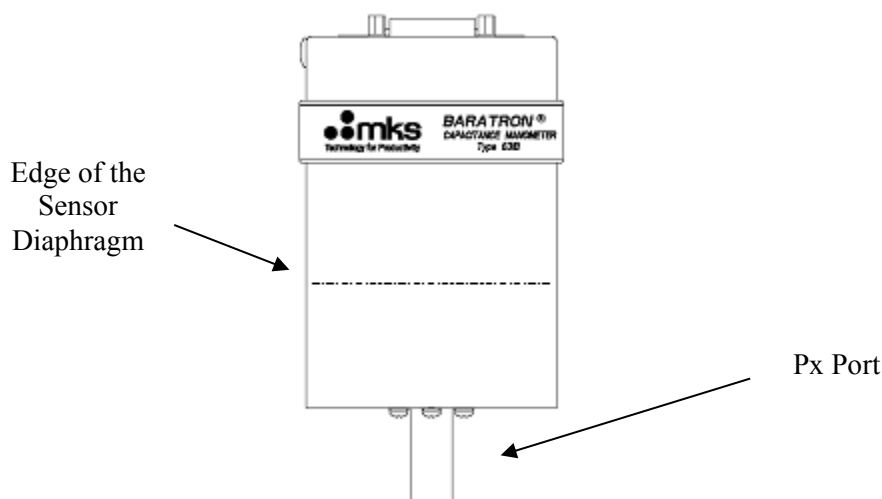

Figure 1: Recommended Orientation of the Type 631B Transducer
- Mount the Type 631B transducer components correctly: refer to Figure 1: Recommended Orientation of the Type 631B Transducer, page 26, for the recommended orientation of the sensor
The 631B transducer can be installed in any orientation as long as the inlet tube is not facing upwards. However, for best results, it is recommended that the Px port of the unit face downward (as shown in Figure 1) to reduce the chance of contaminants entering the device and degrading its performance. The sensor is zeroed at the factory in the vertical orientation (shown in Figure 1). You should zero the unit again after installation, following the steps in *How To Zero the Type 631 Transducer*, page 37.
If you anticipate vibration, orient the plane of the diaphragm *parallel with* the major oscillating axis. The edge of the diaphragm is indicated by the dashed line in Figure 1.